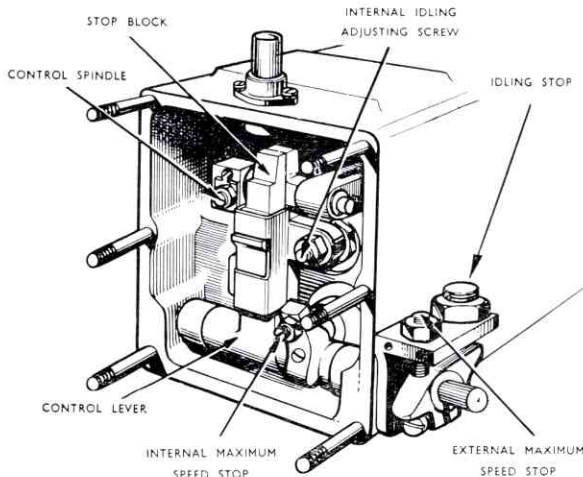

FIG. 92. DETAILS OF THE GOVERNOR STOPS
6. Remove the internal and external maximum speed stop screws and screw back the idling speed stop screw, Fig. 92. Screw the maximum full stop outwards to give maximum control rod travel and lock.
9. Run the machine at 100 r.p.m. with the accelerator lever in the lowest speed position, and now close the idling circuit, by using tool C.A.V. Part No. 7044/606 to pull fully open the governor internal control lever, Fig. 92. All the pump gear delivery will now pass through the low pressure relief valve.
12. Run the machine at the correct speed for idling setting (170 r.p.m.) with both the external idling speed stop screw and idling valve adjusting screw fully unscrewed, Fig. 92. Screw in the idling valve adjusting screw to bring the servo closing pressure on the 0/40 p.s.i. (0/3 kg. s.cm.) gauge to the correct setting of 18 p.s.i. (1.3 kg. s.cm.). Adjust the idling speed stop to give correct idling delivery of 3.6/4.4 c.c. per 200 shots.
15. Test on the machine at maximum governed speed with the accelerator lever at full speed position. Remove end cover and adjust the internal maximum speed stop so that the control rod is just beginning to move towards no fuel position at the correct speed. The control rod movement can be observed at the pump end. Lock the internal maximum speed stop, Fig. 92.
lever (9), Fig. 92, at full speed position, and check that the governor commences to cut-off at the specified maximum speed and is completely cut off within the prescribed "over-run" figures of 130/150 r.p.m.